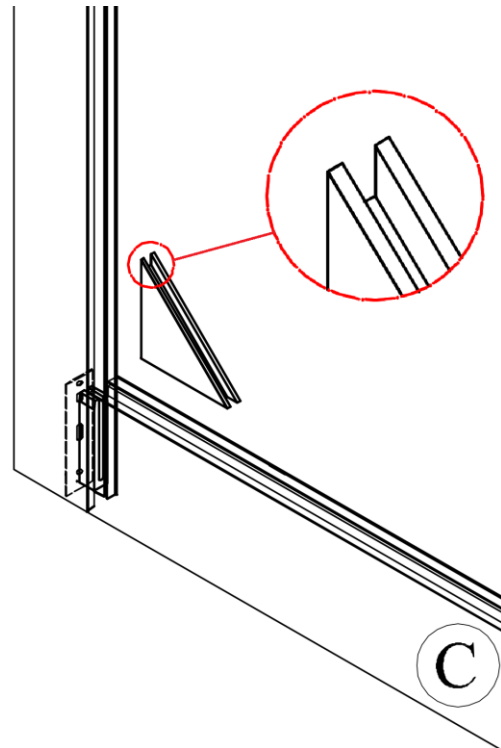

Figure 5
Firstly, insert the triangle I1 panel (one of 2 smallest panel) into the vertical angle corner of Bottom Rail (C) and Stile (A) by fitting each opening edge into the groove of each Bottom Rail (C) and Stile (A). Make sure that the groove of I1 panel is facing outward. See **Figure 5**.